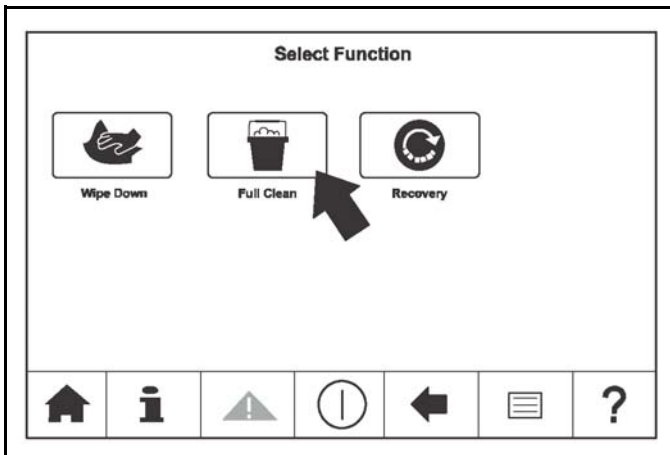

Figure-98
3. Press The Full Clean key . See Figure-98.